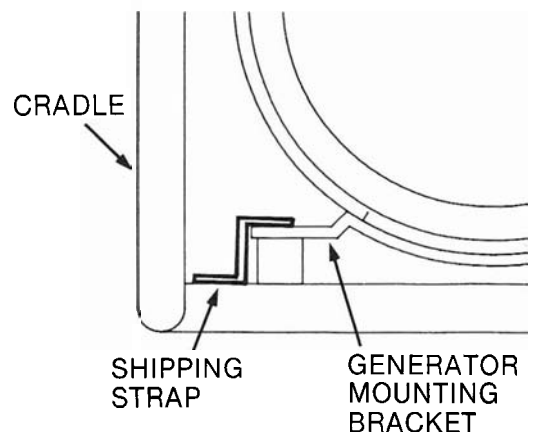

Fig. C-1
3. After removing the engine generator from the carton locate and remove the shipping strap attached to the generator shock mount. See the tag attached for removal instructions. Fig. C-1 shows the location of the tag and the shipping strap.